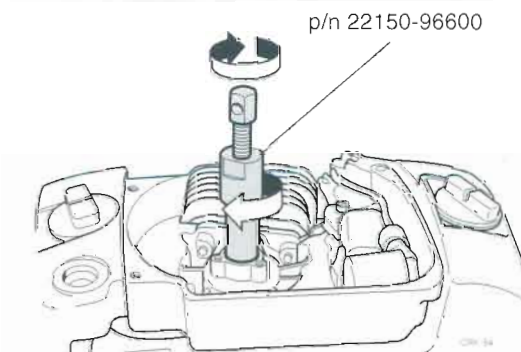

Figure 8.12 Using a Seal Puller
■ To remove the seals from an assembled crankcase, use a seal puller such as p/n 22150-96600 (Figure 8.12).